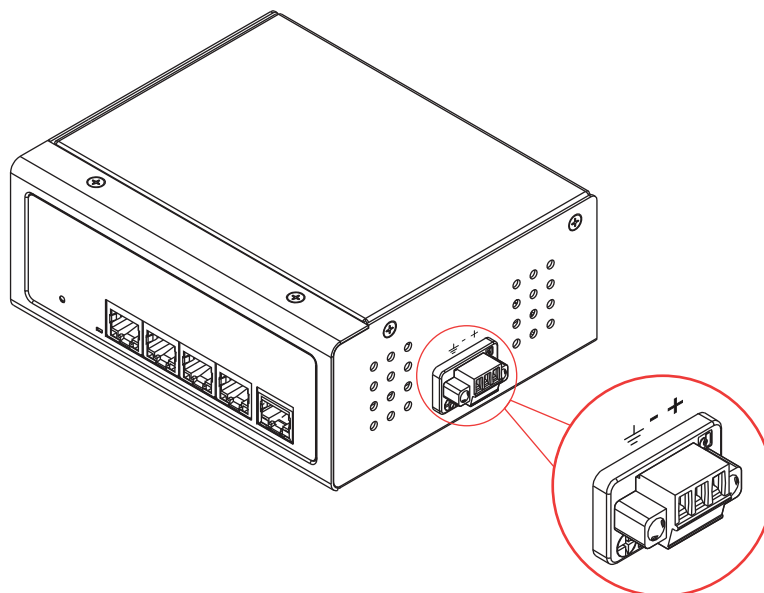

Figure 2. CL1300R terminal block power connection
- The power connection to the CL1300R is a terminal block (see figure 2).